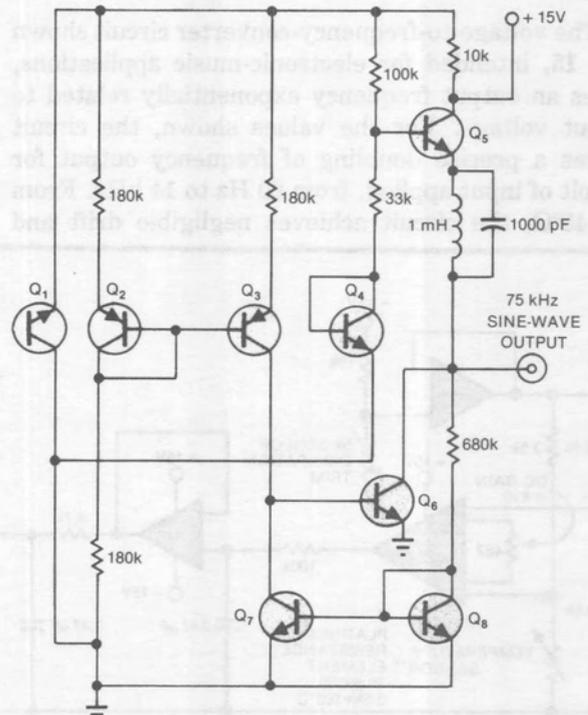

Fig 16—What role do matched transistors play in the production of a sine wave?
24. The circuit shown in Fig 16 generates a 75-kHz sine wave with about 2% distortion. Total supply-current drain is about  $2.5 \mu A$ .  $Q_1$  functions as a temperature-compensated reference diode to stabilize the circuit against supply and temperature shifts. The